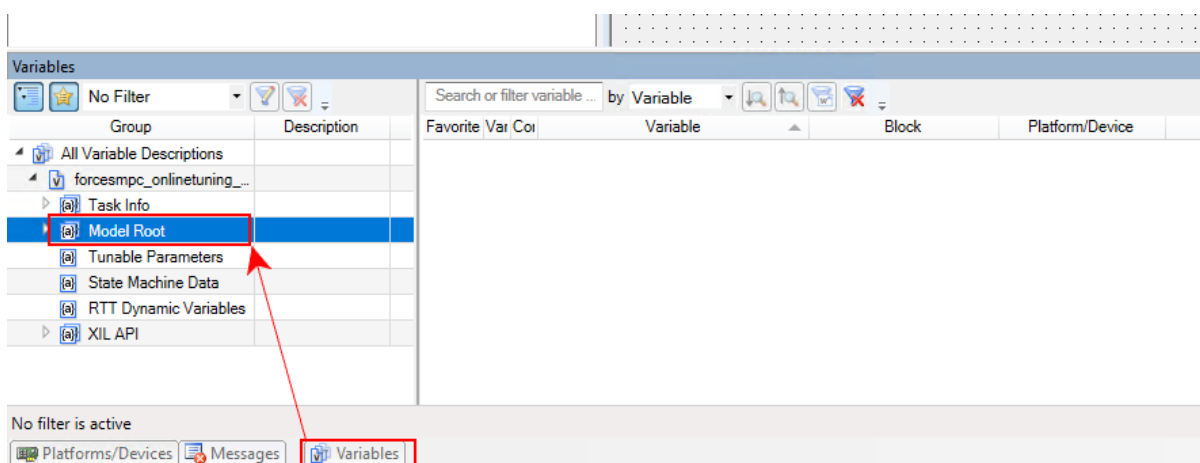

Figure 5.15: Find the model root in the variables tab
- 11) On the project layout select the tab *Variables* and on the *forcesmpc_onlinetuning_dSpace_MicroAutoBoxII* category expand *Model Root* (see Figure 5.15).